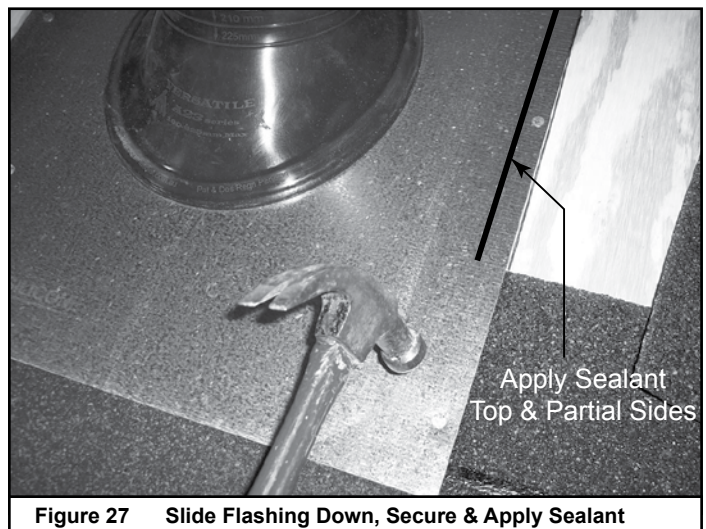

Figure 27 Slide Flashing Down, Secure & Apply Sealant
- Apply silicone sealant on the top outside of the base plate on the sides and on top edge. See Figure 27. Install shingles, Apply sealant at the top edge of the rubber boot. See Figure 28.